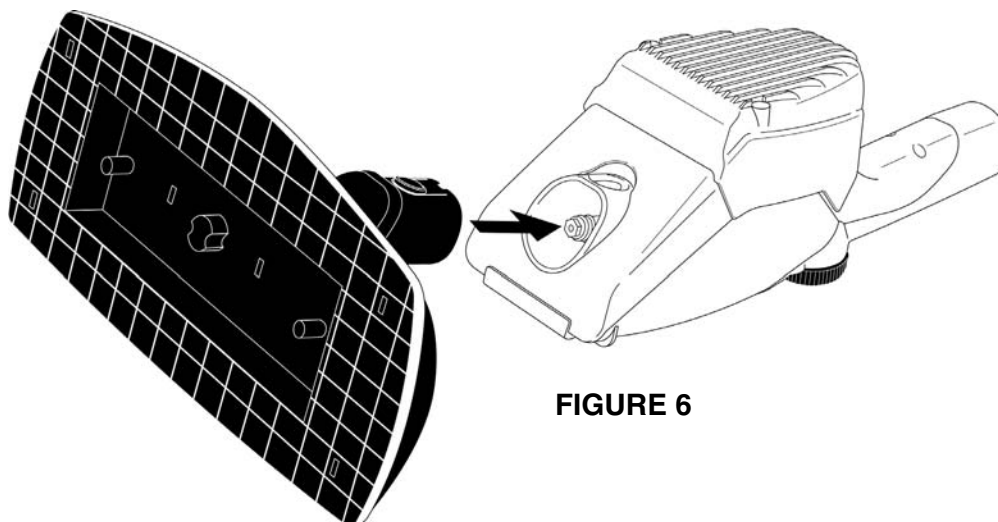

FIGURE 6
1. Align Floor Mop with main unit steam nozzle as shown (FIGURE 6), so that release button on attachment aligns with hole on steam nozzle.